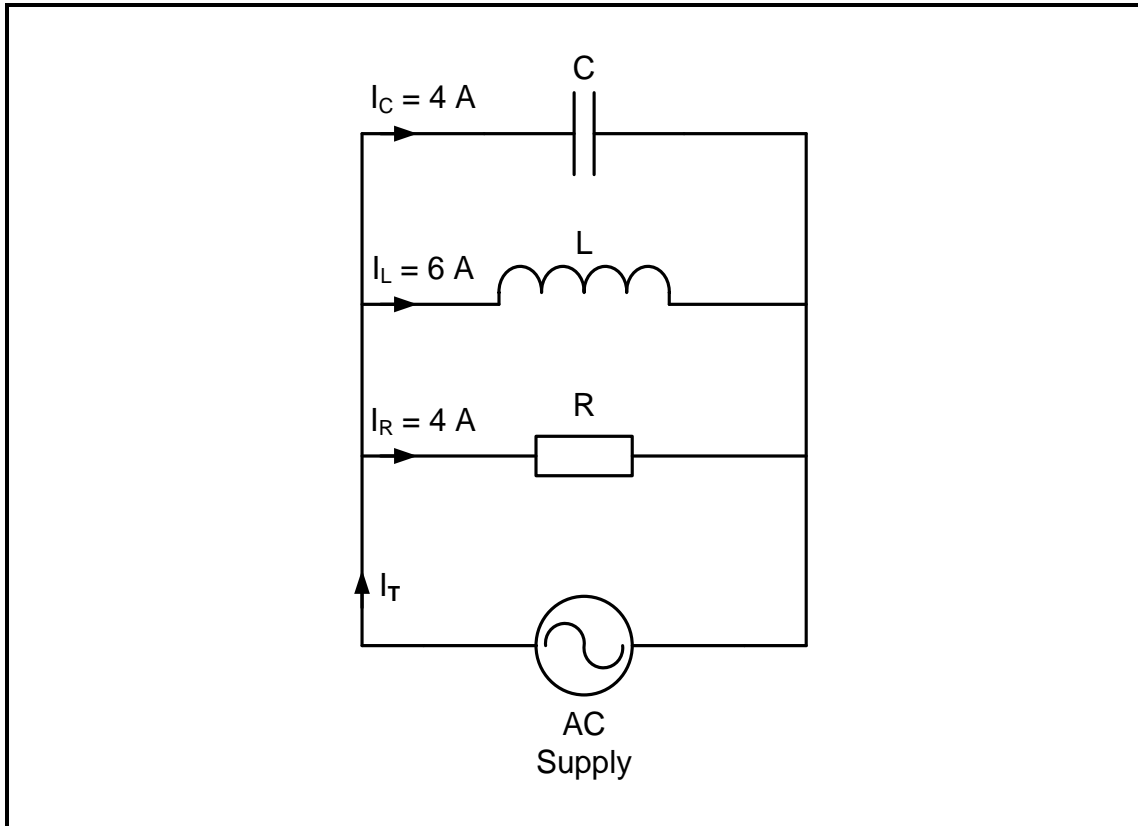

FIGURE 3.3: PARALLEL RLC CIRCUIT
3.3 Refer to FIGURE 3.3 below and answer the questions that follow.
- 3.3.3 Draw the phasor diagram for FIGURE 3.3. (4)